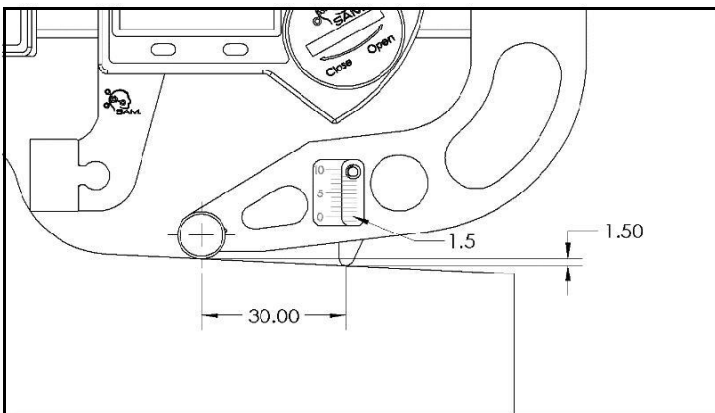

Figure 6
radius r mm smaller than nominal radius measured at F mm.then tread slope is,pee figure6
-digital reader have not adjustment then the square is used to control that caliper has no deformations. pee figure 6.